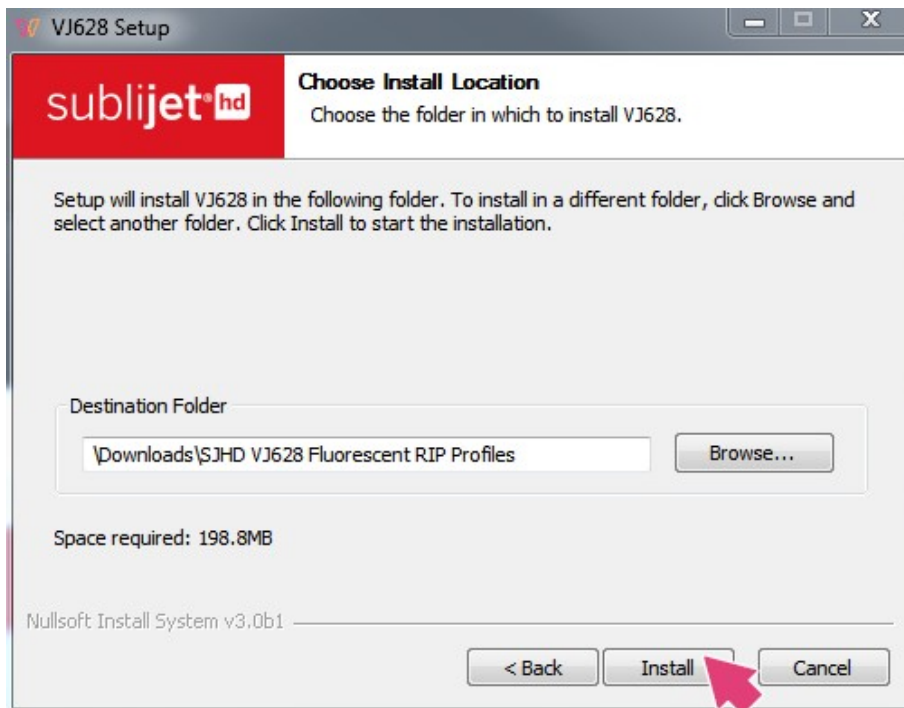

Figure 6
6. Select **Install**. (The installation will be directed to your computer's downloads folder unless otherwise specified). See Figure 6.